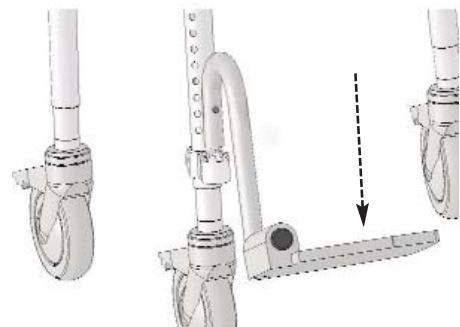

Figure 8
**H** Install the swing-away footrests by sliding the gooseneck tubing/foot paddle into the clamp that is attached to the front legs (Refer to Figure 8).